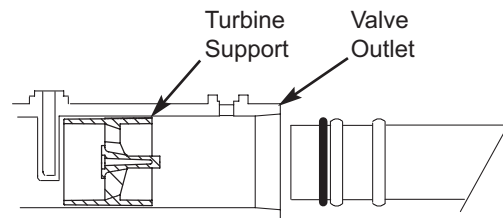

FIG. 7
- Be sure the turbine support is in place in the valve outlet, as shown in Figure 7.